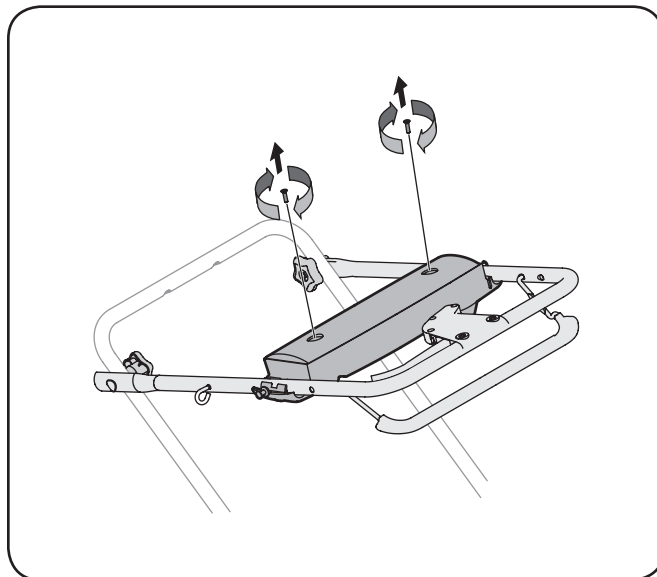

Figure 7-2
1. Loosen star knobs securing upper and lower handles and carefully fold the upper handle down toward the lower handle as shown in Fig. 7-2.
2. Remove the two screws securing battery cover to battery housing and place them to the side. See Fig. 7-2.
1. Open the battery cover as described in Replacing Battery. See Fig. 7-2.